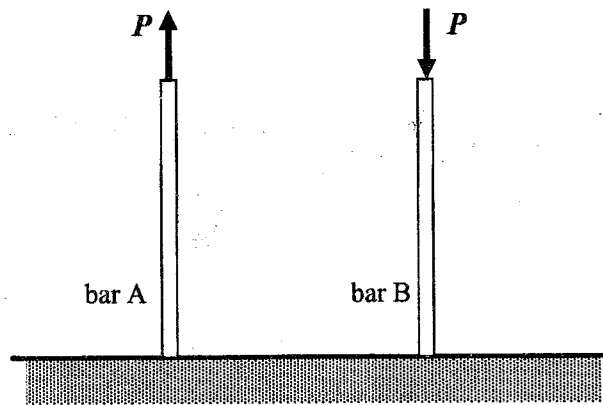

Figure 5
5. [a] Figure 5 shows two bars subjected to axial load P : bar A is in tension and bar B is in compression. Assuming that both bars are identical in all aspects and that they are both slender, explain briefly why $P_{max, B} < P_{max, A}$, where $P_{max, A}$ and $P_{max, B}$ are maximum axial load that can be applied on bar A and B, respectively.